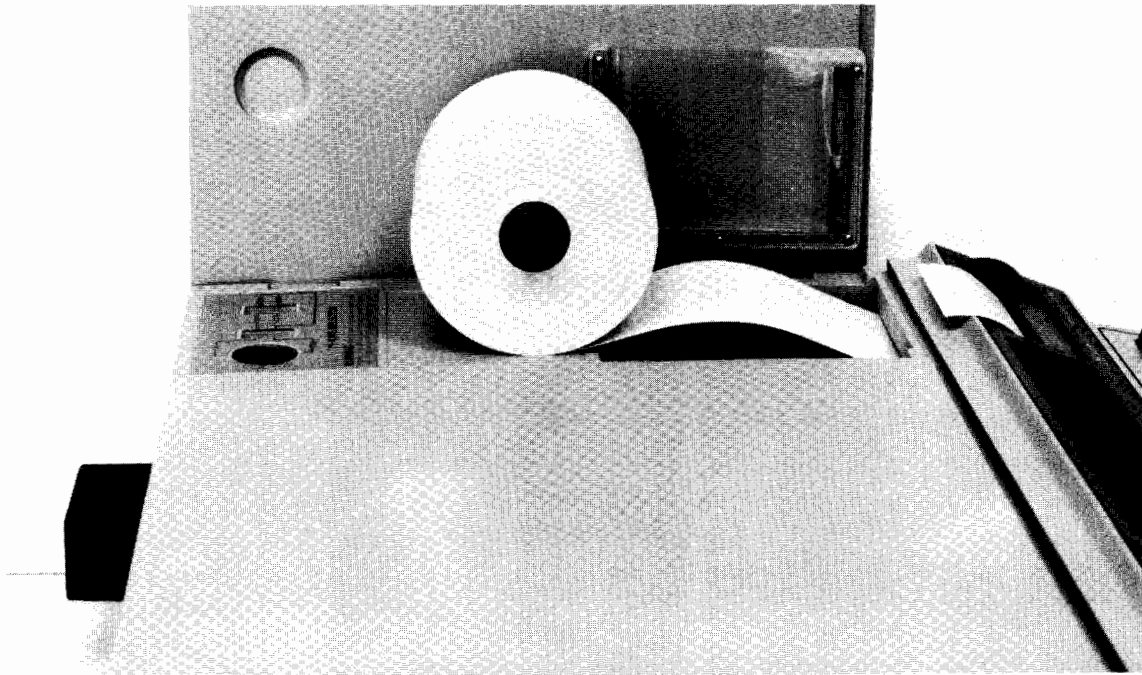

Figure 1-5 Loading Printer Paper
3. Position the spindle in the guides so that the paper will unwind from the bottom of the roll (see Figure 1-5).